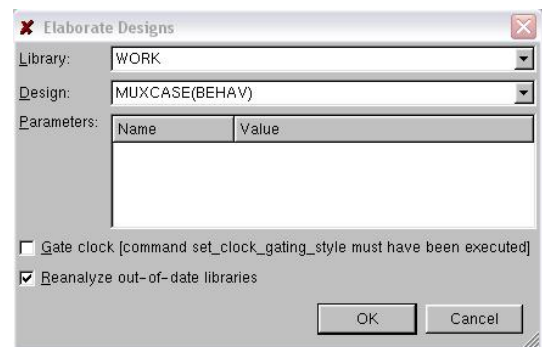

Figure 5: Elaborate window.
14. In the *Design Vision* window, select **File >> Elaborate** to open the window in Figure 5.